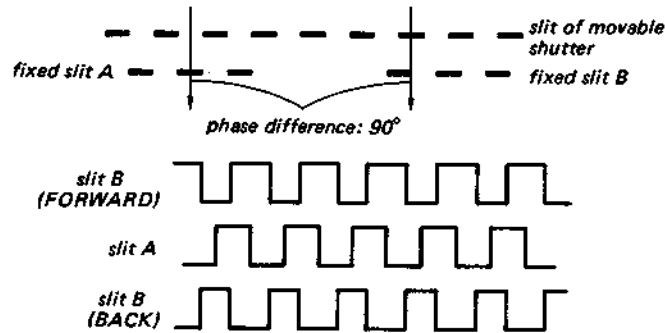

Fig. 5
5. Drop-point and End Detection (see Fig. 5 and 6):